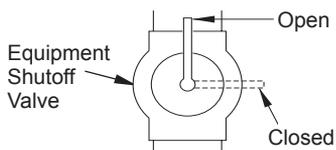

Figure 11 - Equipment Shutoff Valve
- Close equipment shutoff valve (see Figure 11).
- Open equipment shutoff valve (see Figure 11).
4. Close equipment shutoff valve (see Figure 11, page 10).